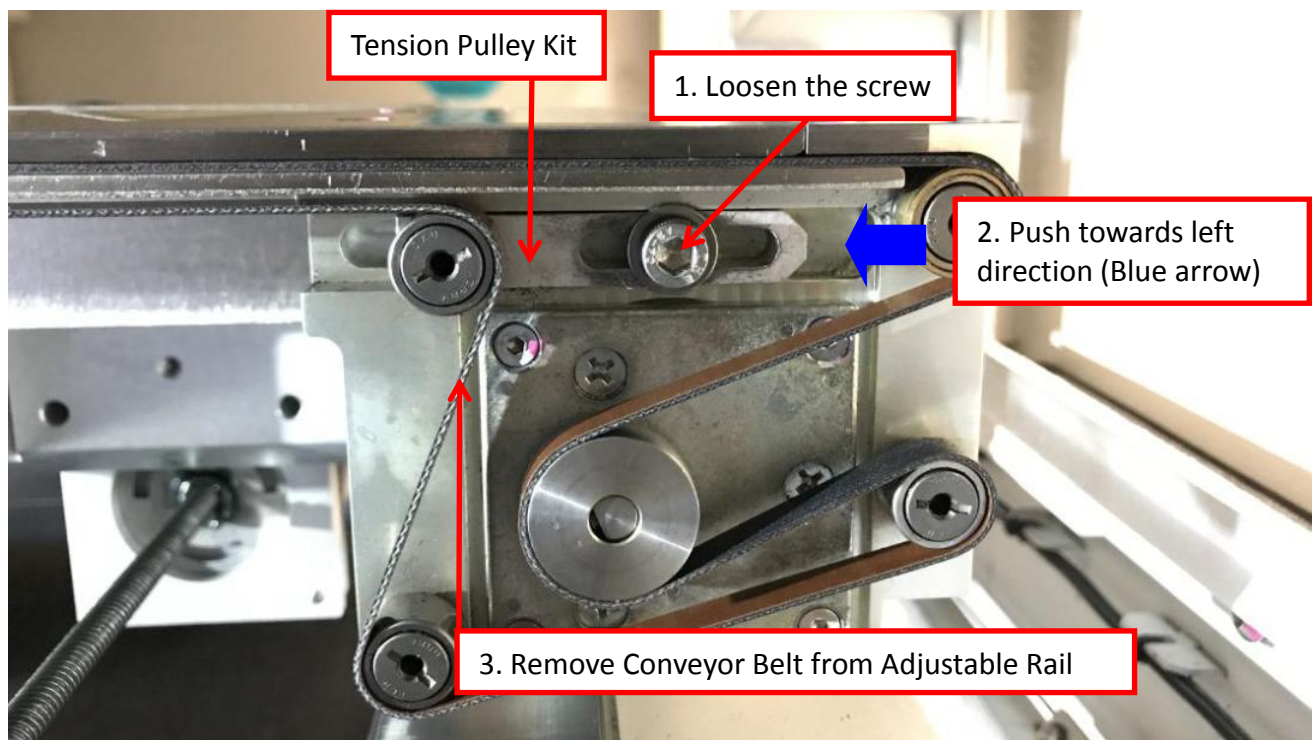

Figure 2 Adjustable Rail Conveyor Belt
3. Loosen 1 x Screw at Tension Pulley Kit as shown in Figure 2.
Gently push Tension Pulley Kit towards left direction (Blue arrow in Figure 2)